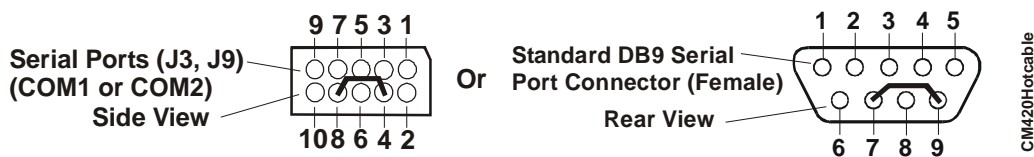

Figure 3-3. Hot Cable Jumper
To convert a standard serial cable to a Hot Cable, certain pins must be shorted together at the Serial port connector or at the DB9 connector. Short together the RTS (4) and RI (8) pins on either serial port (J3 or J9) header. As an alternate, you can short the equivalent pins (pins 7 and 9) on the respective DB9 port connector as shown in Figure 3-3.